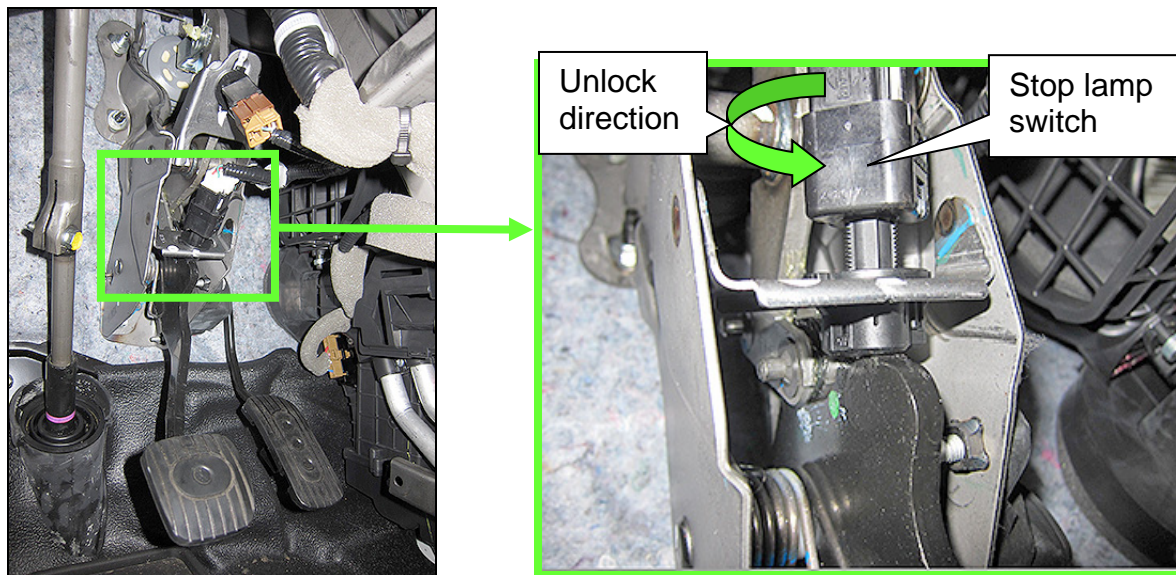

Figure 8
1. Turn the stop lamp switch (black switch, Figure 8) 45° counterclockwise to unlock.